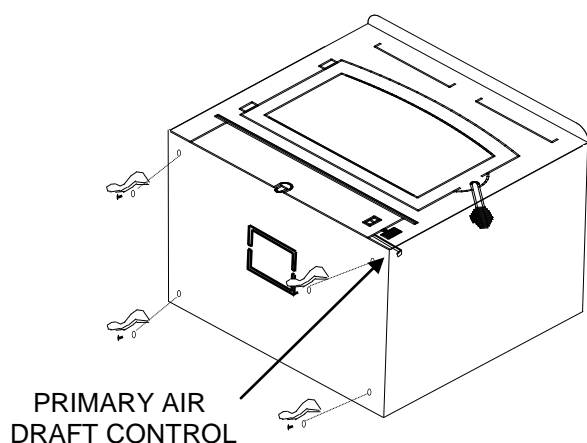

Figure 12
3. Check primary air draft control to ensure that it slides freely.(See Figure 12).
5. **(Leg Kit):** If legs are to be used, obtain four legs, attach legs to holes in bottom of unit with bolts and washers supplied. (See Figure 12).